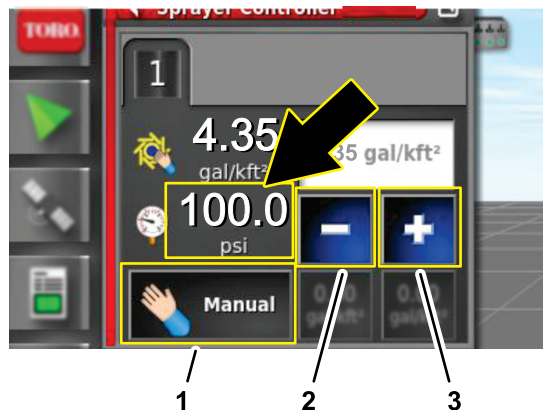

Figure 165
- In the spray rate controller dialog box, press the RATE CONTROL MODE icon until manual mode displays (Figure 165).
- Press the decrement icon (-) or increment icon (+) to adjust the spray system pressure (Figure 165) to 6.9 bar (100 psi).